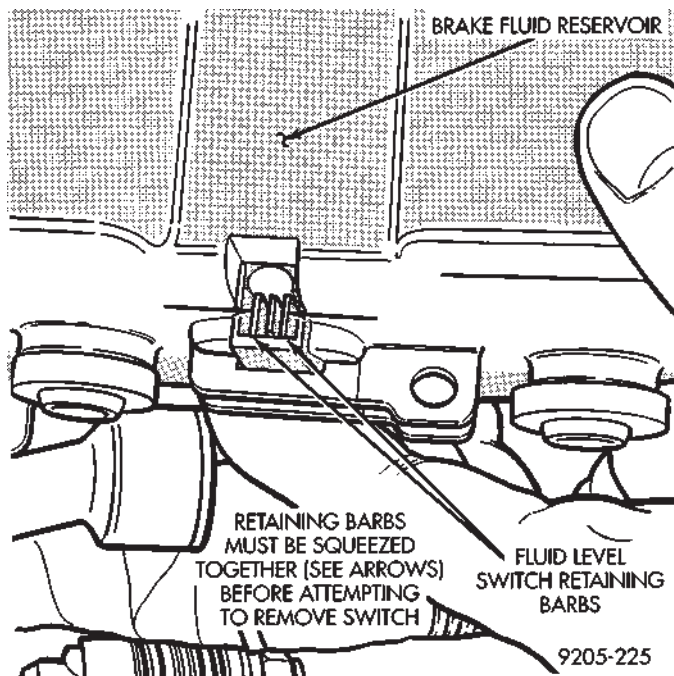
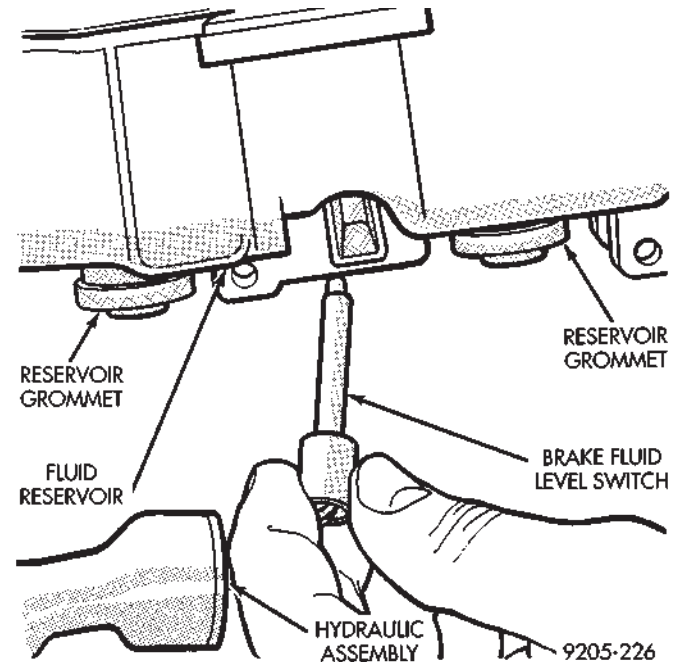

Fig. 13 Fluid Switch Retaining Barbs
Fig. 14 Remove Brake Fluid Level Switch
(6) Remove the brake fluid level sensor switch from the reservoir. Remove switch by compressing the retaining barbs (Fig. 13) on the end of the switch and then slide switch out of the brake fluid reservoir (Fig. 14)
(7) Using fingers, remove the 3 reservoir grommets (Fig. 14) from the hydraulic assembly or reservoir, and discard. **Grommets must not be reused when reservoir is installed on hydraulic assembly.**
(1) Thoroughly lubricate the new reservoir grommets with clean brake fluid and install on reservoir outlet ports (Fig. 14). **The new reservoir grommets supplied with reservoir, must ALWAYS be used.**
(2) Install brake fluid level switch into brake fluid reservoir (FIG. 14).
(3) Press reservoir into hydraulic assembly **BY HAND**, using a rocking motion to help seat reservoir into hydraulic assembly. Be sure that grommets are fully seated in the hydraulic assembly. **DO NOT ATTEMPT TO POUND RESERVOIR INTO HYDRAULIC ASSEMBLY, USING A HAMMER.**